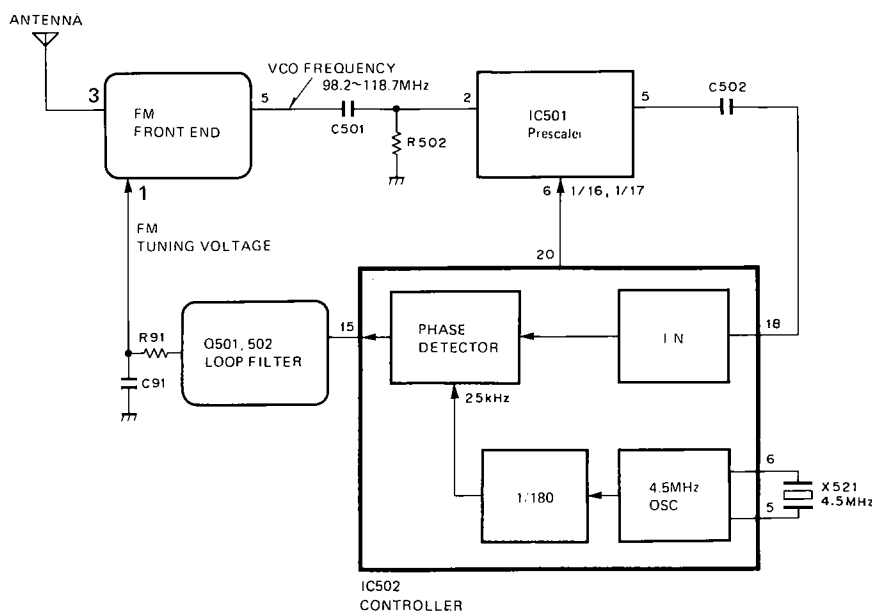

Fig. 60
• Frequency Synthesizer Section (FM) (Fig. 60)